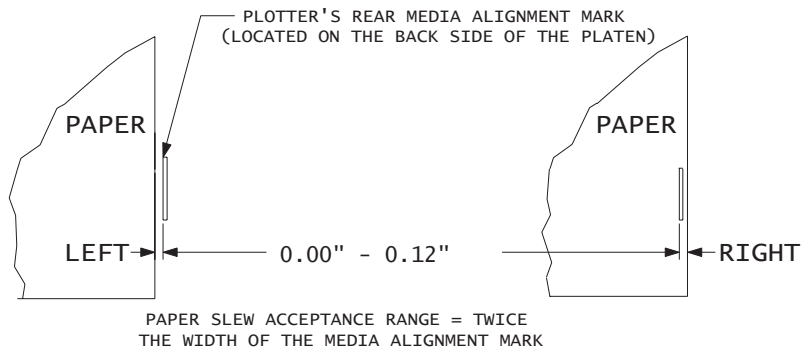

Figure 3-22. Paper Skew Acceptance Range for Rear Media Alignment Mark.
3. Check to make sure that the gap between the right edge of the paper and the left edge of the Rear Media Alignment Mark (on back of the Platen) is within 2 line widths (0.12"). See Figure 3-22.